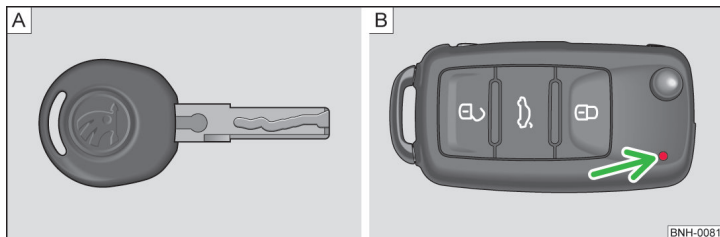
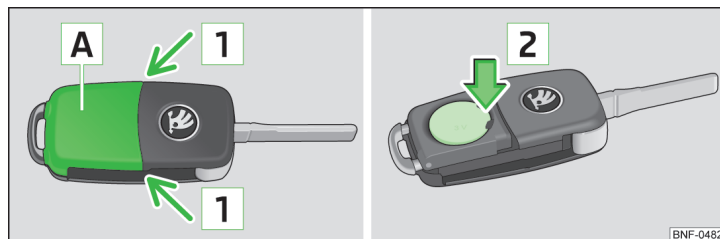

Fig. 26 Key: without/with remote control
Fig. 27 Remote control key: Remove cover/remove battery
Two keys are provided with the vehicle. Depending on the equipment, your vehicle can be equipped with keys without radio remote control » Fig. 26 - [A] or with radio remote control » Fig. 26 - [B].
Each remote control key contains a battery located under the cover [A] » Fig. 27. The battery needs replacing if red indicator light » Fig. 26 on page 47 - [B] does not go on when you press a button on the remote control key. We recommend having the key batteries replaced by a specialist garage. However, if you would like to replace the discharged battery yourself proceed as follows.
- Press off the battery cover with your thumb or using a flat screwdriver in the region of arrows **1** » Fig. 27.